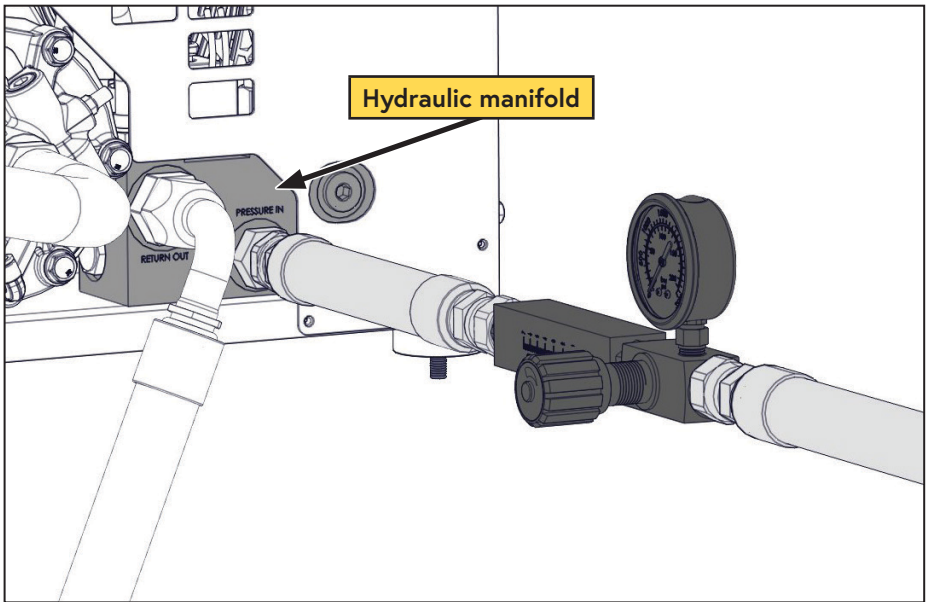

Figure 40 — Install hydraulic test tool
- Connect the hydraulic test tool in-line into the "PRESSURE IN" side of the hydraulic manifold (Figure 40).